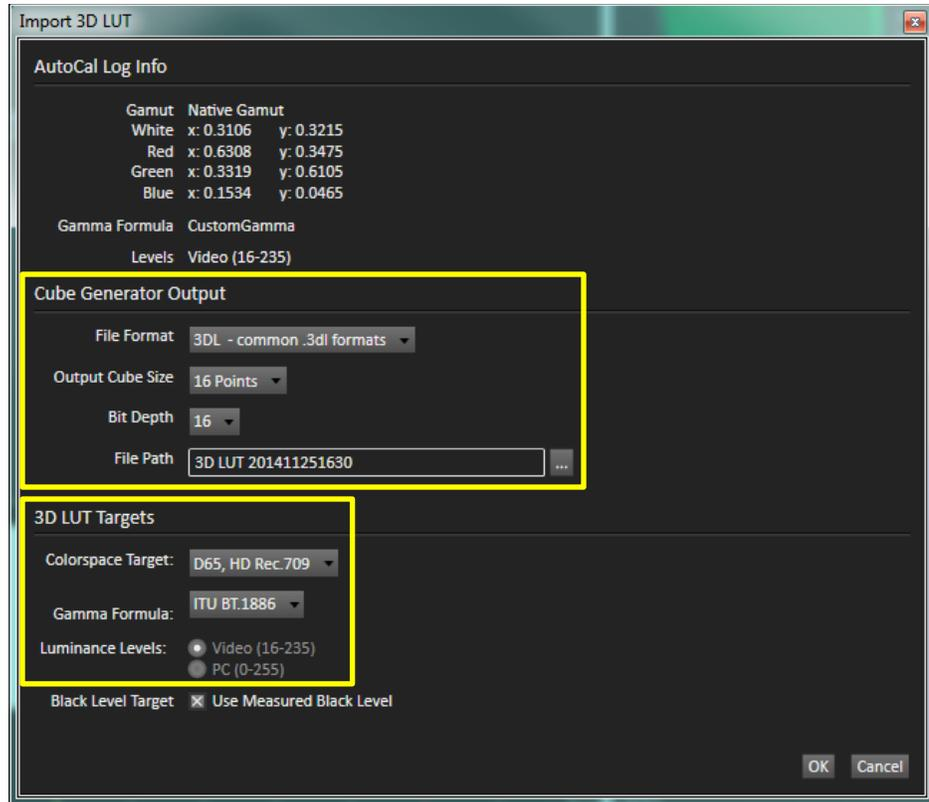

Figure 8: On the Import 3D LUT dialog, select your desired Cube Generator Output options and 3D LUT Target options for your new 3D LUT.
3. On the *Import 3D LUT* dialog that opens (Figure 8), select your desired Cube Generator Output options (file format, cube size, bit depth, file path) and 3D LUT Target options (colorspace target, gamma formula, luminance levels) for the new 3D LUT.